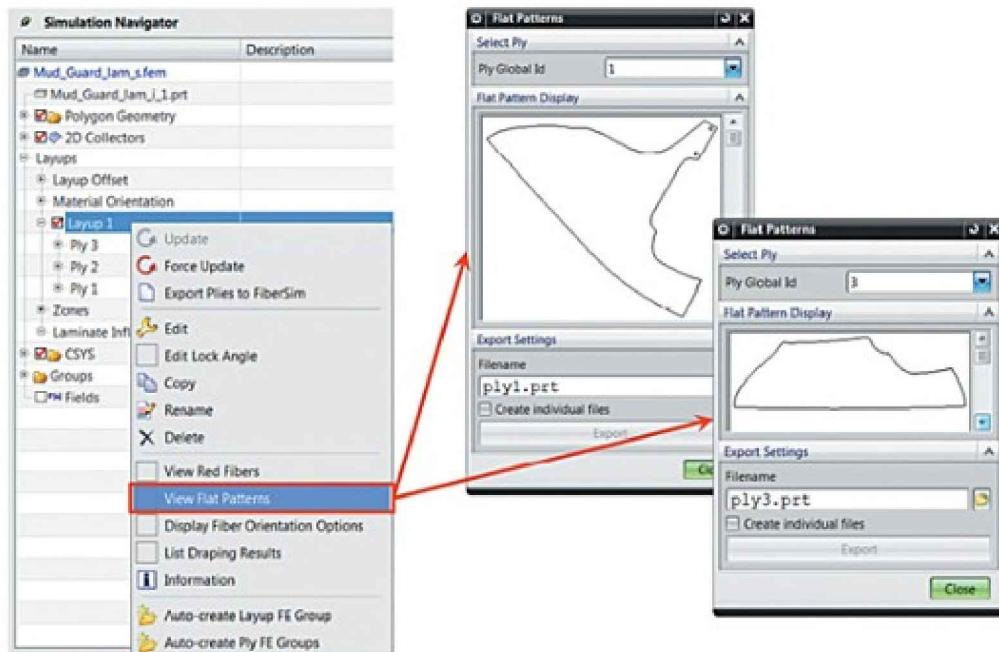

Figure 6.16. Creating flat patterns for each ply
You can use additional commands to work with the layup and the global plies themselves. To use these commands, right-click the relevant node (Figure 6.16):
- Choose **View Flat Patterns** for a layup or **View Flat Pattern** for a single ply to view flat patterns as a graphical representation or in geometry format (Figure 6.16).